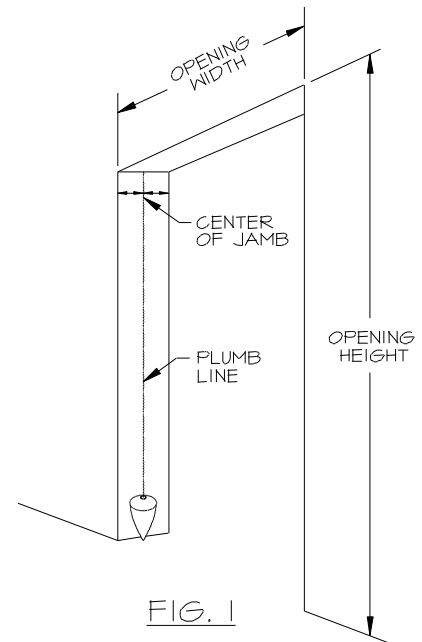

FIG. 1
- **Measure the jamb width** at the top of the door jamb (Figure 1).